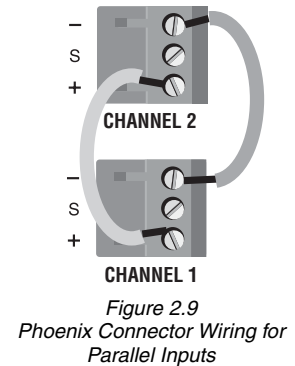

Figure 2.9
2. Feed your signal to the Channel-1 input (either Phoenix or combo). Connect a jumper wire (Figure 2.9) between the Phoenix Channel-1 (+) screw terminal and the Channel-2 (+) screw terminal. Connect another jumper wire between the Channel-1 (–) screw terminal and the Channel-2 (–) screw terminal.